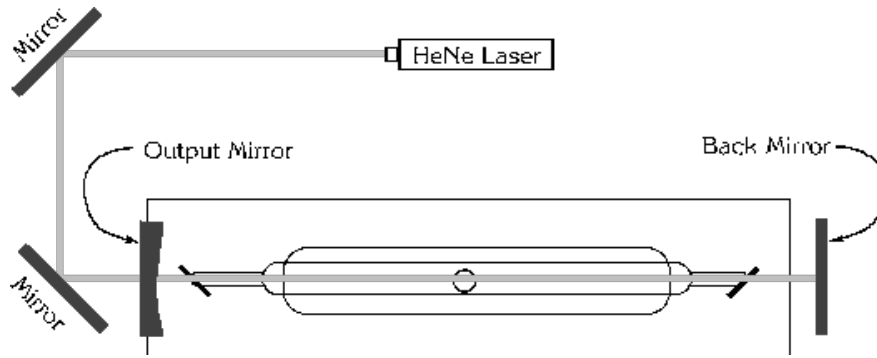

Figure 11: Alignment Configuration (note: diffraction grating not shown; it is between the back mirror and the right Brewster window)
3. Make sure the mirror closest to the HeNe laser is set up (it pivots out of the way in order to allow the CO₂ laser light to enter the spectrometer. Then block off the back mirror with a piece of paper so that reflections don't confuse matters. See Figure 11 for a suggestion on the set-up. Also remove, with vinyl gloves on, very, very, very, carefully the output coupler mirror (labeled as output mirror below). To do this, remove the plastic panel above the output mirror. Then, with your gloves on, unscrew the mirror. Once you've removed it, set it on the optical table in a safe place, with the optics down (this prevents dust and other contamination from landing on it). **Note: Do not ever attempt to clean this optic mirror.** Finally, move the diffraction grating aside for now by disengaging the rubber band which holds it into place.